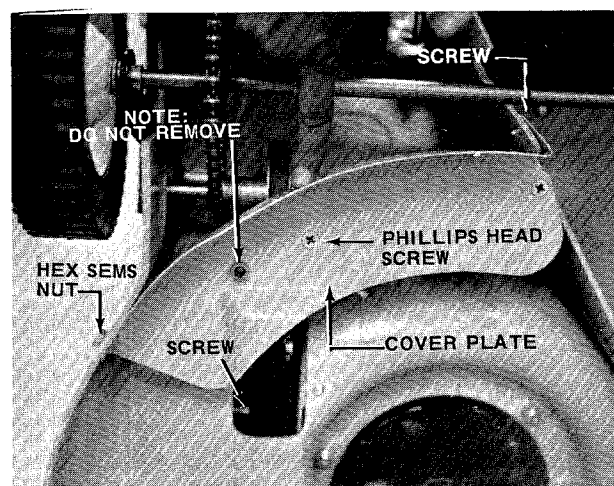

FIGURE 22
4. Place the mower in an upright position. (See figure 22.)
5. Remove the three screws holding the cover plate. A phillips screwdriver, standard screwdriver and adjustable wrench are required. See figure 22.